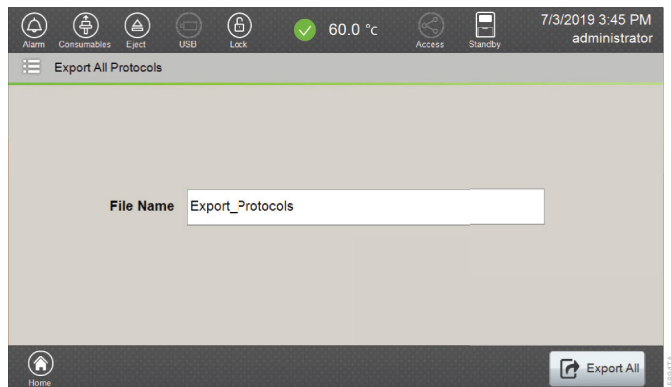

Figure 153. 'Export All Protocols' screen.
1. Select **Export All Protocols** on the 'Main Menu' screen (Figure 9) to access the 'Export All Protocols' screen (Figure 153). Enter a File Name for the exported protocols file by selecting the **File Name** field. This opens the 'File Name' window, and a keypad will become active on the touch screen. Alternatively, the File Name can be entered using a traditional keyboard if one is connected to the Spectrum Compact CE System. Enter the appropriate File Name, and then select **OK** to exit and return to the 'Export All Protocols' screen.
3. Select **Export All** on the 'Export All Protocols' screen (Figure 153). A confirmation window will appear asking "Are you sure you want to export the protocols to the USB Device?" Select **Yes** to export the file, or select **No** to cancel out of the export process.